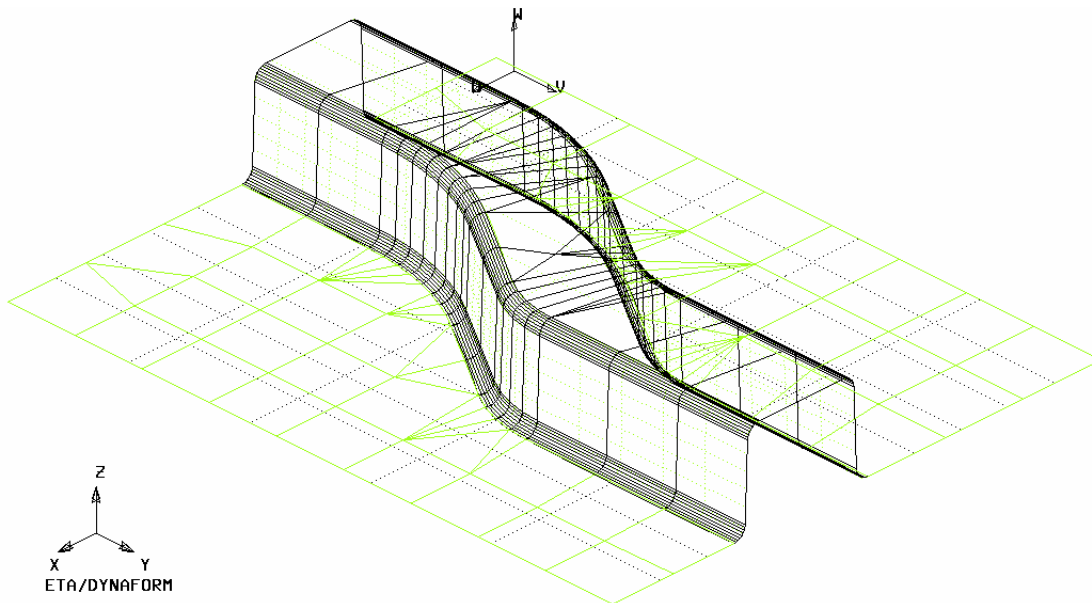

Figure 82: Highlighted elements for punch
16. Select two sides of the flanges. As shown in Figure 82, the highlighted elements is copied as punch.